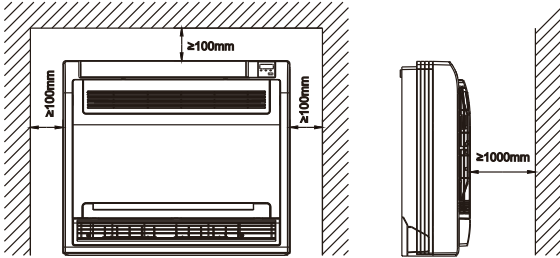
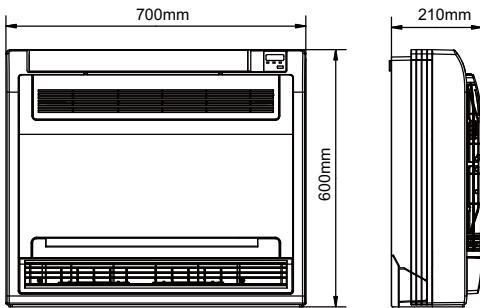

Fig.50-2
Fig.50-3
- There is enough room for installation and maintenance. (Refer to Fig.50-2 & Fig.50-3)